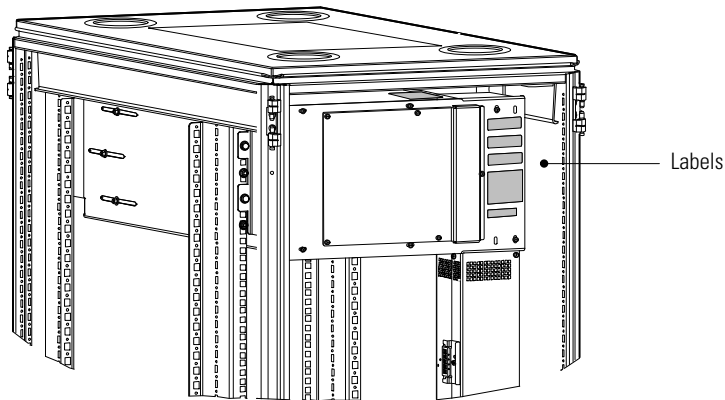

Figure 19. Wireway Labels
21. Verify that the six information labels are attached to the wireway as shown in Figure 19.